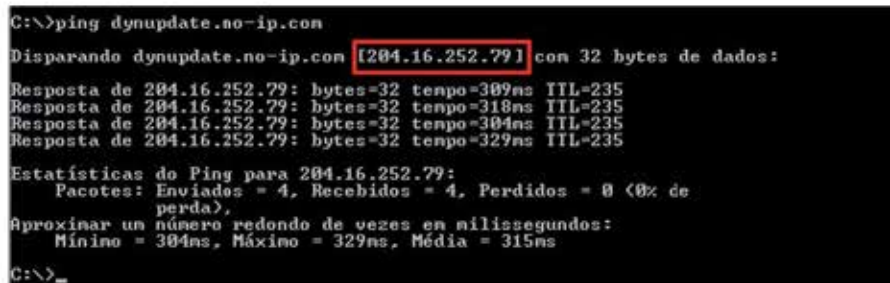

Figure 14-10
10. Now you need to define the definition of the server's IP in IP-device able to access this service DDNS. To get DDNS service, you need to have a computer connected to the Internet on the same network with device. Then please type the command `dynupdate.no-ip.com` at the command prompt, Windows ®. The server's IP will be displayed on the screen. See Figure 14-10. Your device can use this IP to find the No-IP server.